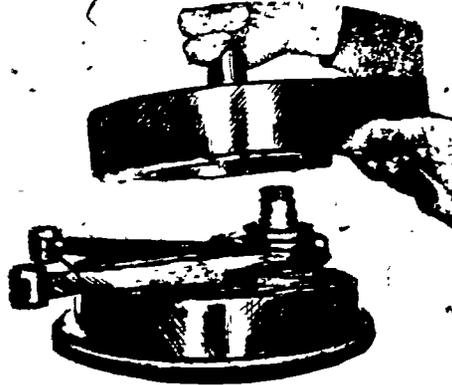

FIGURE 2
- Remove upper crank wheel (Figure 2)